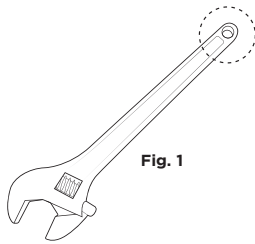

Fig. 1
2. For attachment to tools with a captive hole or handle engineered hole into the tool [fig. 1], locate the tools connection point and slide the Tool Tail™ through the captive hole or handle and feed the d-ring end back through the loop choking it onto tool pulling it tight to remove slack. Snug barrel lock down if applicable.